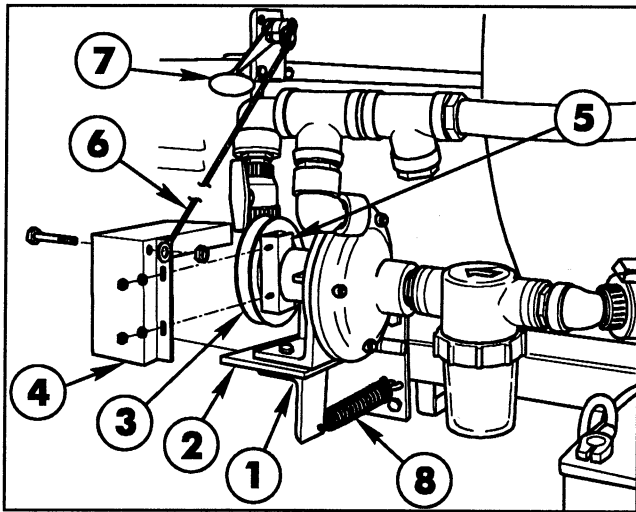

FIG. 6
5. Assemble the Centrifugal Pump and the Spring Mounting Angle to the Pump Pivot Plate, using two (2) 3/8" x 1-1/2" cap screws, flat washers, and lock nuts as shown in FIG 6.
8. Loosely mount the Pump Belt Cover to the Pump hub with the Pump Cover Clamp and the two (2) 5/16" flat washers, lock washers, and hex nuts. See FIG. 6.